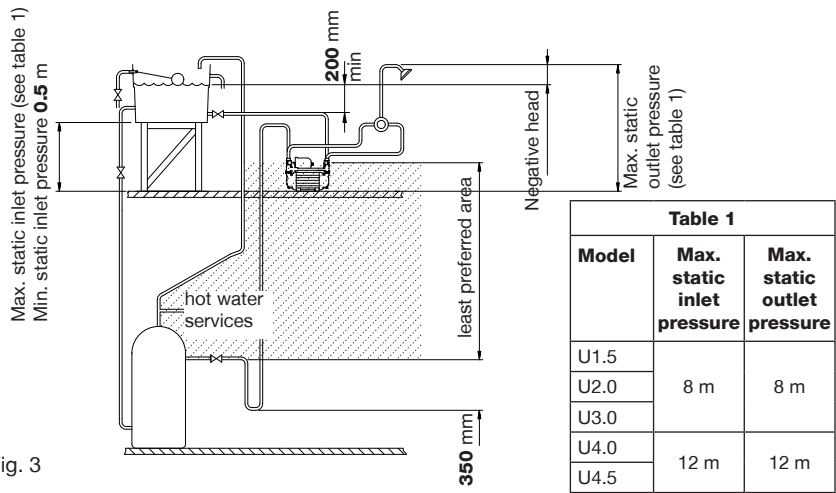

Fig. 3
The use of a Stuart Side Entry (SE) cylinder flange, which should have the addition of an inverted loop ("U" bend) of 350 mm minimum drop before rising to the pump, located as close as possible to the cylinder wall. Please note both flange options listed above are designed to suit 22 mm pipework. If used in ROI a suitable adaptor to 21 mm pipe must be used (not supplied). This will ensure the pump receives an air free supply and the cylinder vents any air up the vent pipe and not the pump feed (Fig. 3).